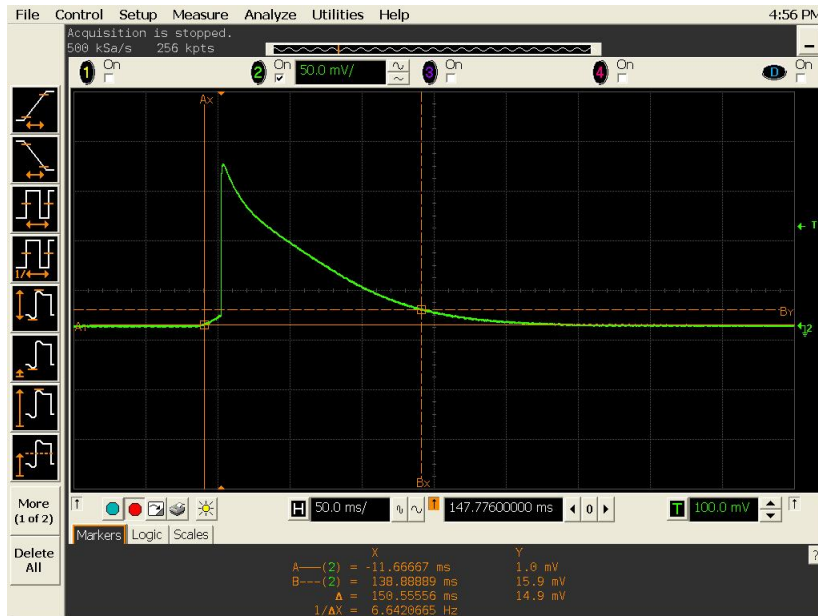

Figure 5-13 Load transient response time
- 7 Adjust the oscilloscope to display transients as shown in Figure 5-13. Note that the pulse width ($t_2 - t_1$) of the transients at 50 mV from the base line should be no more than 450 ms for the output.